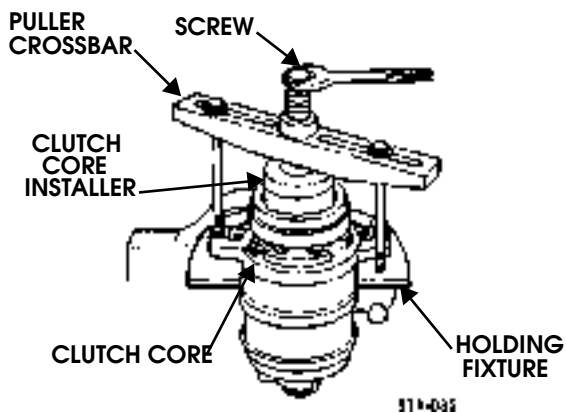

Figure 11-40: Clutch Core Installer
3. Center the puller crossbar in the countersunk center hole of the clutch core installer. Install the through-bolts and washers through the crossbar slots, and thread them into holding fixture. The thread of the through-bolts should engage the full thickness of the holding fixture. (Figure 11-40).